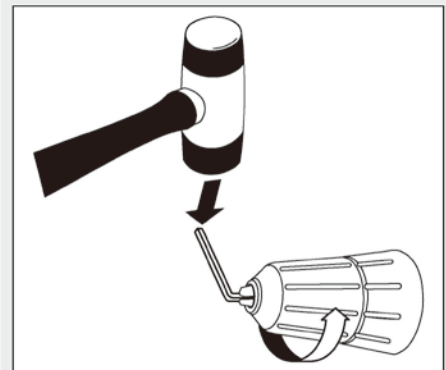

Fig. 15
7. Insert the hex key into the chuck and tighten jaws of chuck securely (Fig. 15). Tap the hex key sharply with a mallet in a **COUNTER-CLOCKWISE** direction. This will loosen the chuck on the spindle. The chuck can now be unscrewed and removed from the spindle by hand.